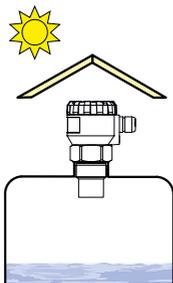

Fig. 13: Solar radiation shielding cover
- The level meter must not be installed in places with direct **solar radiation** and must be protected against weather effects. If the installation in places with direct solar radiation is inevitable, it is necessary to mount a **shielding cover** above the level meter (Fig. 13).